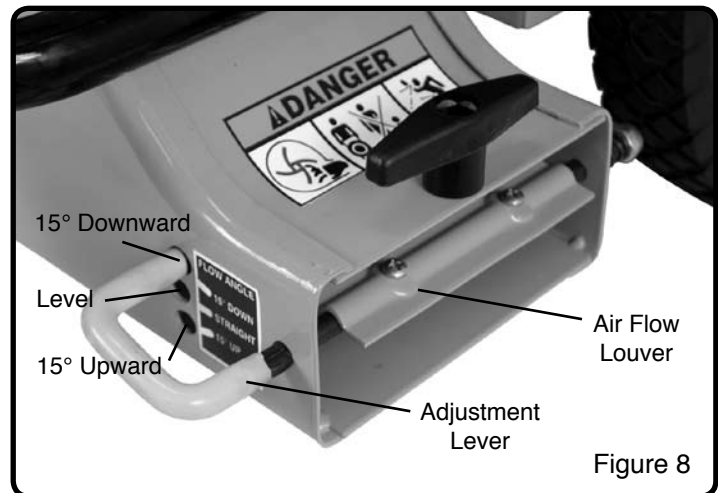

Figure 8
The vertical air flow direction can be adjusted between 3 positions: Straight (level), 15 degrees upward, and 15 degrees downward. Refer to Figure 8 when performing the adjustment steps below:
2. Rotate the vertical adjustment lever to the level position (See Figure 8)